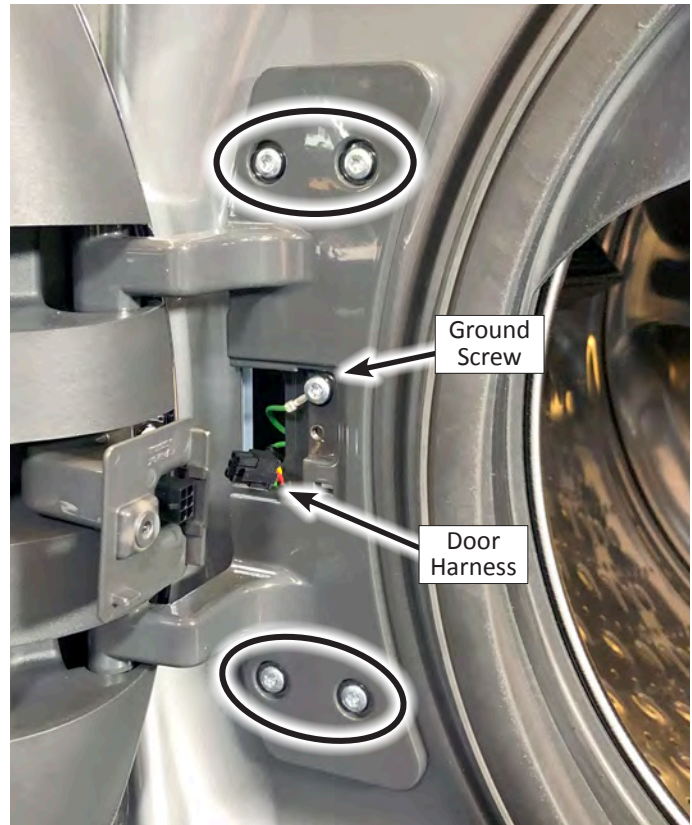

Figure 2
3. Open center hinge and disconnect door harness (see Figure 2).
4. Using a T25 Torx driver, remove the ground wire screw (see Figure 2).
5. Using a T25 Torx driver, remove the four (4) screws (circled in Figure 2) securing the door hinge to the front panel.